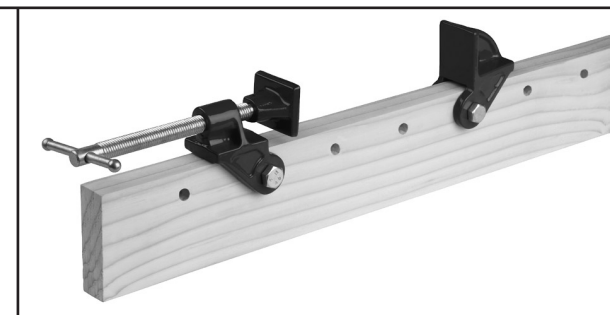

Figure 3. Bar clamp heads mounted.
3. Using the hex bolts and nuts provided, mount the two bar clamp heads (see **Figure 3**).